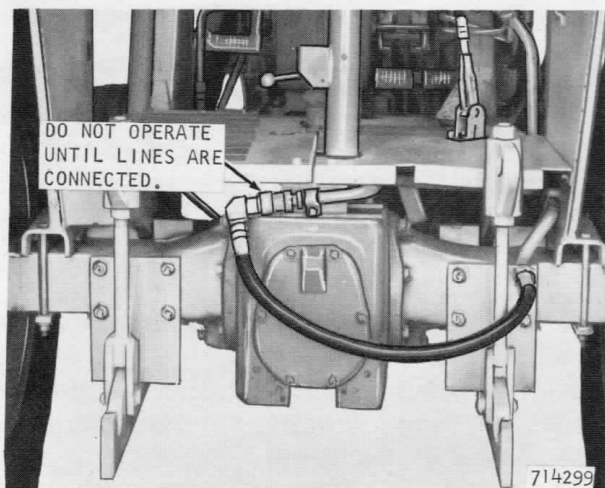

Figure 44 - Hydraulic Line Connection On Tractor
8. Connect the return hose to the pressure tube on the tractor, Figure 44. The tractor is now ready to drive away.